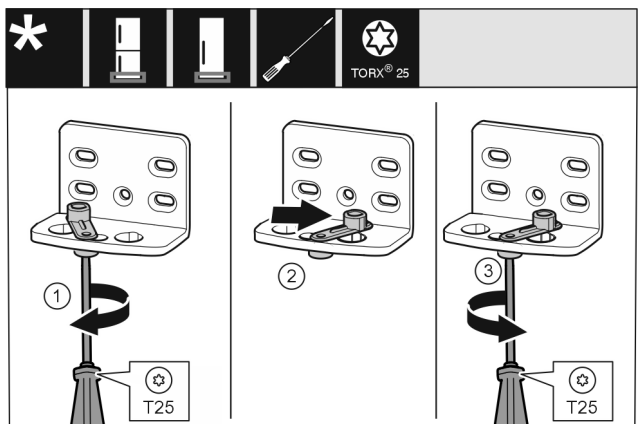

Fig. 10
- ▶ Loosen the screw using a T25 screwdriver. Fig. 10 (1)
- ▶ Lift the door closing aid and turn it 90° to the right in the hole. Fig. 10 (2)
- ▶ Tighten the screw using a T25 screwdriver. Fig. 10 (3)